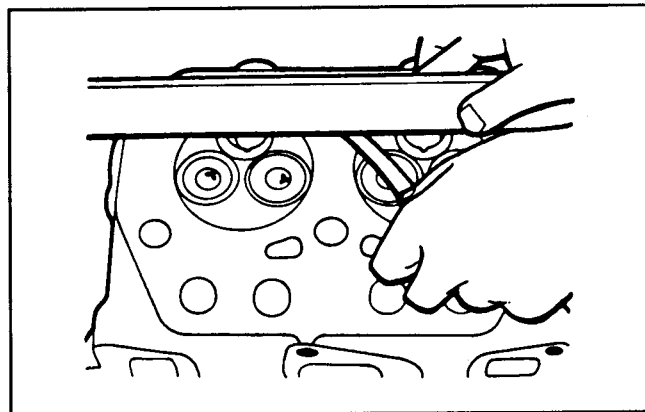

Figure 63
8. Use a straight edge and feeler gauge to check the flatness of the cylinder head lower surface (Fig. 63). Be sure to check the surface variation crosswise, lengthwise, and diagonally. If the variation in surface flatness exceeds (0.05 mm) 0.002 in. , the cylinder head or cylinder block must be replaced or resurfaced.